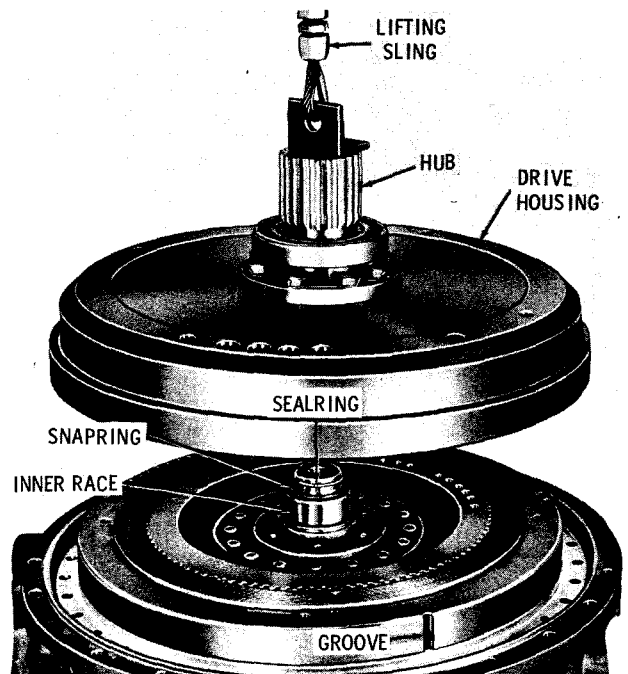

Fig. 7-87. Installing converter drive housing
(12) Install the converter drive housing, with clutch piston, anchor keys and return spring (if used) onto the torque converter pump (fig. 7-87). The single anchor key on models prior to S/N 19246, or two anchor keys on later assemblies must engage respective slots in the lockup clutch back plate.